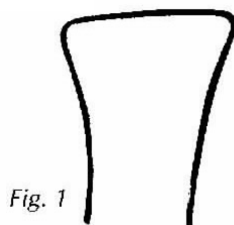

Fig. 1
1. Make cuts with hacksaw per fig. 1 in a piece of flat iron $3/16" \times 3/4" \times 7"$
Heat the end of the bar and rasp it to make sure it is flat and square on the end. Reheat, and with the piece laid flat on the anvil, deliver flat, overlapping blows to taper the end nicely to about 3" up the stock. Aim for a smooth taper, down to 1/16 or so. Let the stock spread on the sides to about 1" wide or a little more (see Fig. 1). Try to get it evenly spread on both sides of the center line so it will roll up evenly.